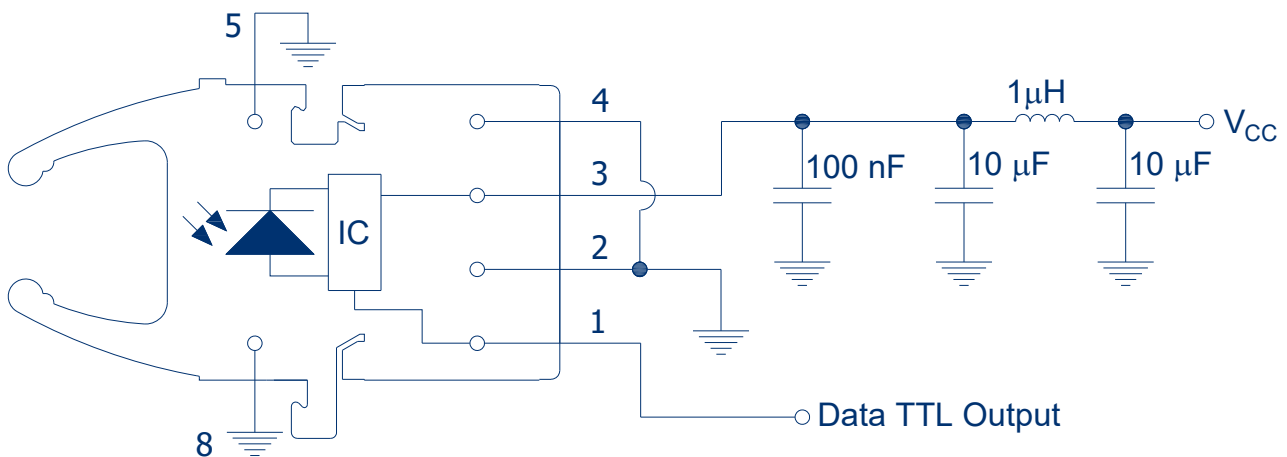

FIGURE 2
1. Pin 4 is electrically isolated internally. Pin 4 may be externally connected to pin 1 for board layout compatibility with existing designs. Otherwise, it is recommended pin 4 be grounded as in Figure 2.